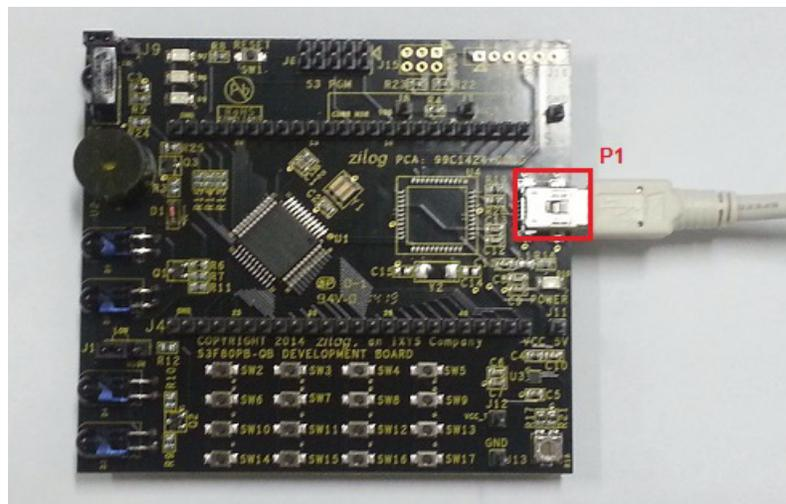

Figure 5. The Power Supply Port P1 Connector
4. With the USB A (male) to Mini-B cable, connect Port P1 on the S3F80QB Development Board to a USB port on the development PC to apply power to the Development Board, as indicated in Figure 5.